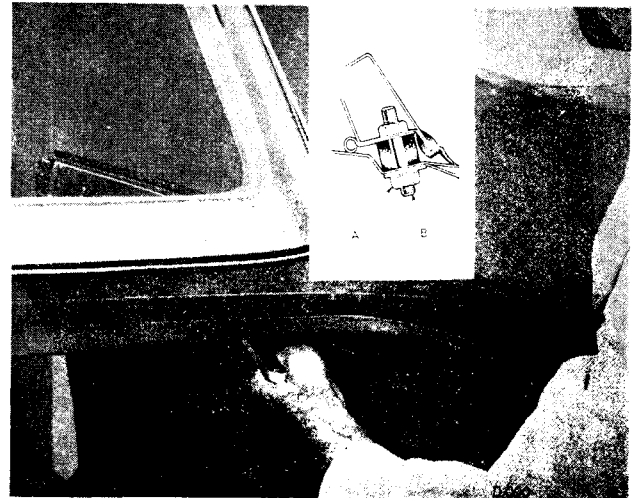

Fig. 21. Releasing roof rear deck fixing
Release the roof panel by removing four screws (two at each side), securing the centre pillar to the roof, and three nuts (A) from the studs (B) shown on inset (Fig. 21) securing the rear lower edge of the roof to the body.